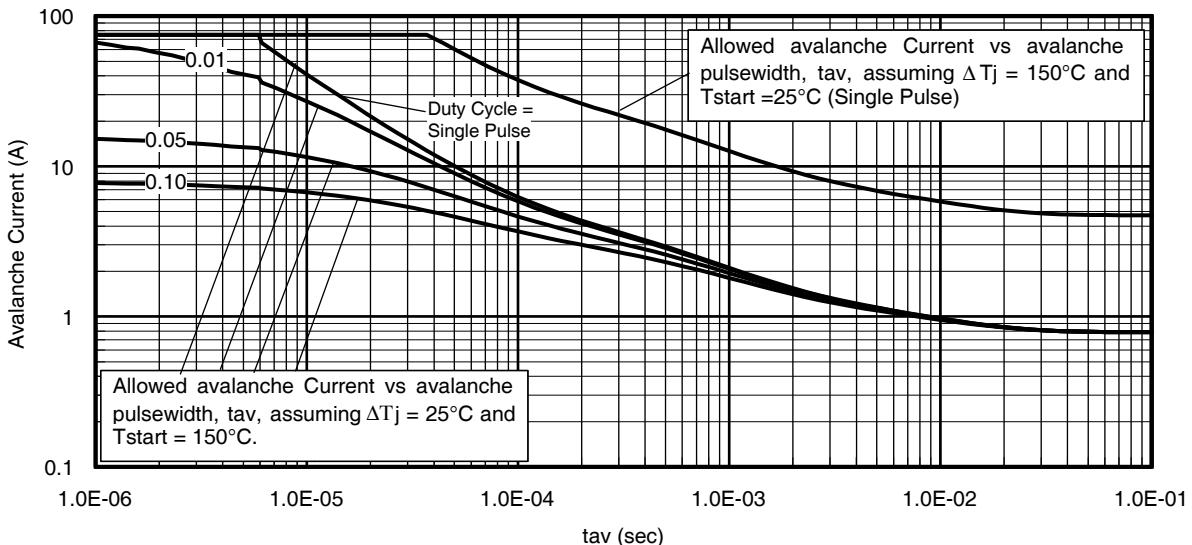

Fig 14. Typical Avalanche Current vs.Pulsewidth
7. ΔT = Allowable rise in junction temperature, not to exceed T_{jmax} (assumed as 25°C in Figure 14, 15).